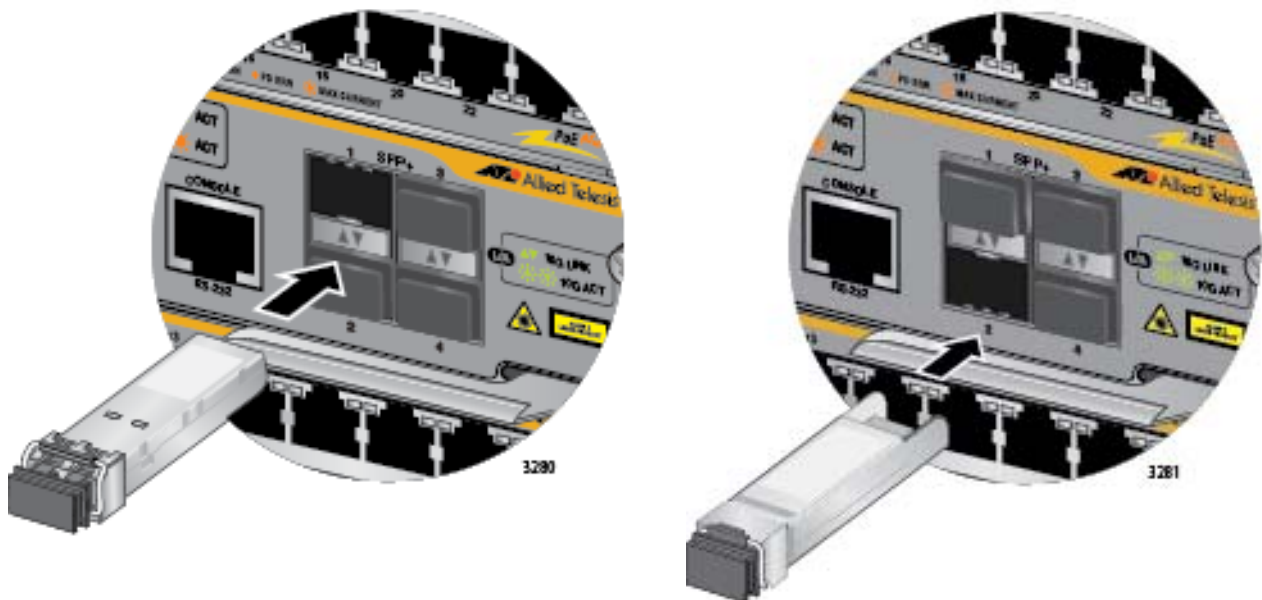

Figure 177. Installing the AT-StackOP/0.3 or AT-StackOP/9.0 Transceiver
3. Slide the transceiver into the slot until it clicks into place. Refer to Figure 177 on page 293.